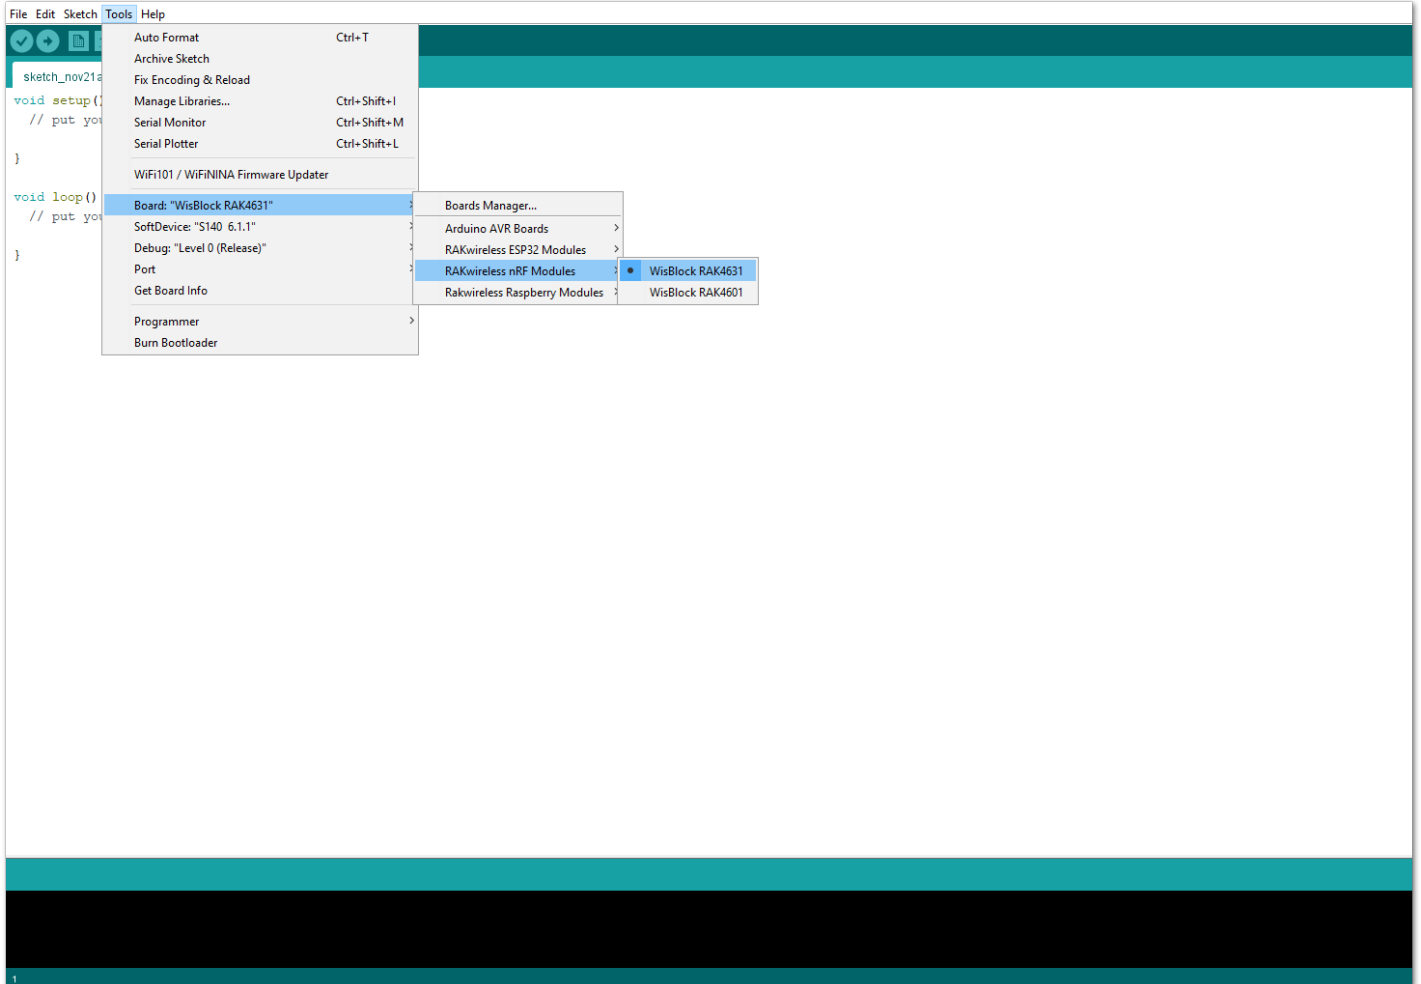
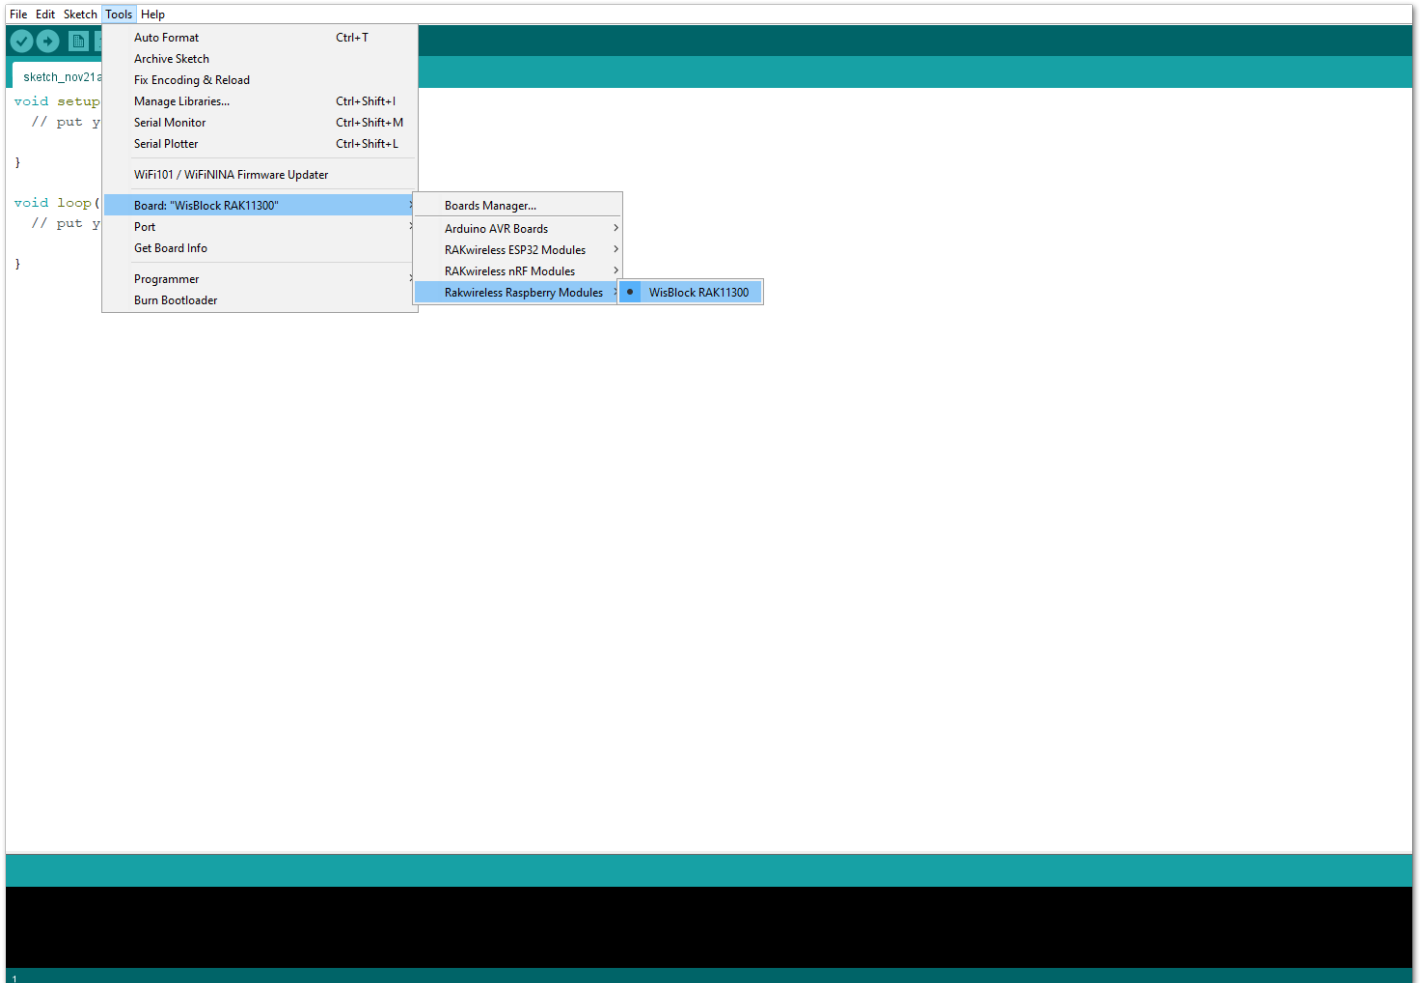

Figure 6: Selecting RAK4631 as WisBlock Core
Figure 8: Selecting RAK11310 as WisBlock Core
1. You need to select first the WisBlock Core you have, as shown in **Figure 6** to **Figure 8**.